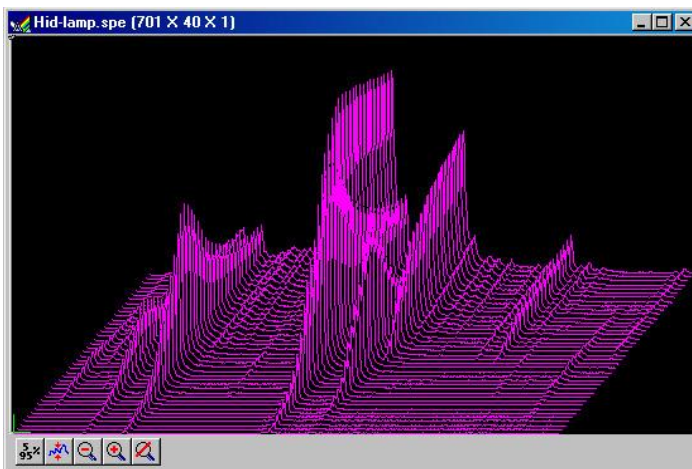

Figure 53. High Intensity Lamp Spectrum
5. Either double-click on the name of the file you want to open or single-click on the name and then click on the **Open** button. For example, with 3D Graph selected, double-clicking on Hid-lamp.spe would open that file, producing the display shown in Figure 53. Note that there are many different ways of controlling how the image will be displayed, as described in Chapter 8.